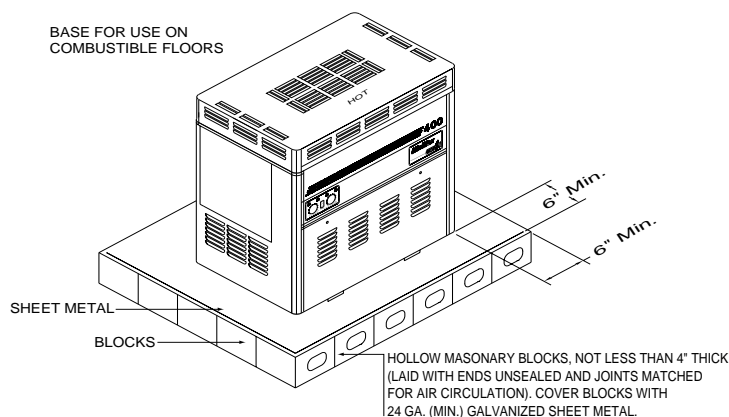

Figure 23.
- Construct a non-combustible base from masonry blocks as illustrated, see Figure 23.